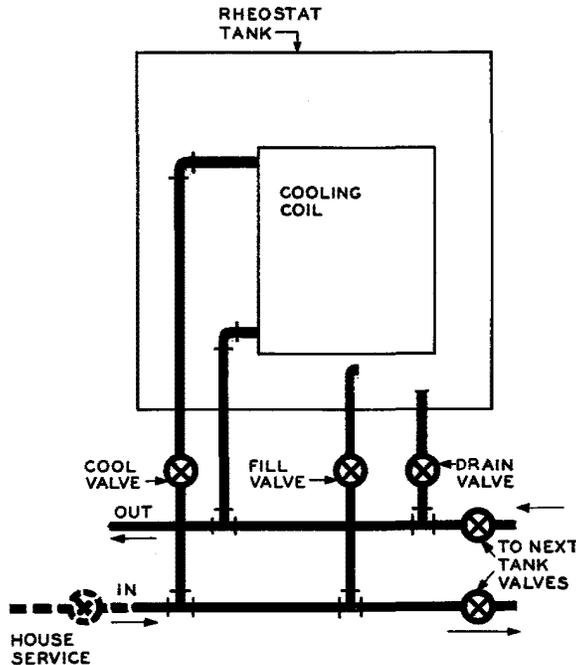

Fig. 15 – Piping Schematic of R-2746 30-KW Water Rheostat Cooling System
6.08 The building water supply is connected to the IN coupling. This may be done by means of a garden hose capable of withstanding the local city water pressures which will be encountered at the various offices where these rheostats will be used. The water received must be from a hose 3/4 inch or larger and can be used to supply a maximum of six R-2746 rheostats. Another hose is connected from the OUT connection to a convenient drain for the purpose of carrying off the heated water from the cooling coil as well as draining the rheostat. The NEXT TANK valves are to be open except at the last rheostat in the group which is closed. See Fig. 15. Close all DRAIN and COOL valves. With the water supply on, open FILL valves and fill each rheostat to the level marked on the cooling coil. This may be observed through the opening at the top of the rheostat with the cover open. Do not allow water to touch the underside of the terminal assembly at the top of the rheostat since current flowing between them during operation would result in permanent damage to the assembly.